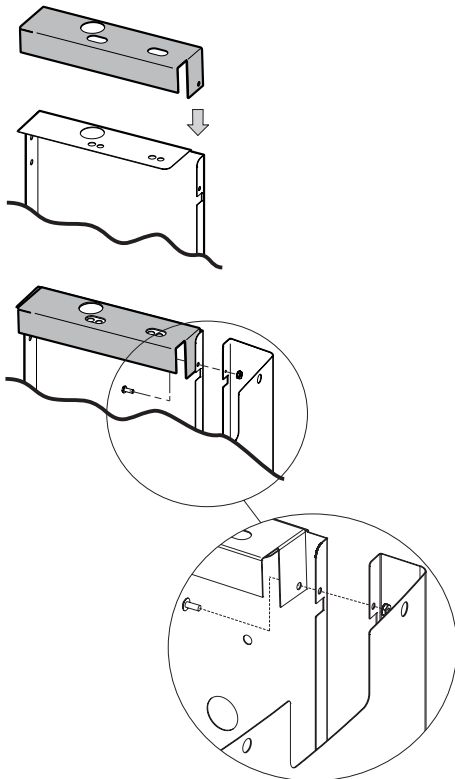

Figure 2
2. Place the base support brackets on the side panels. Slide the short flanges on the brackets between the top and side flanges of the side panels. See Figure 2.
3. Align the holes on the front and side panel assemblies and secure with six #10-24 x 1/2" Phillips screws and 10-24 Keps Nuts provided (3 on each side). Do not tighten these screws until all are installed. Use black screws for black carts and stainless steel screws for stainless steel carts. See Figures 2 and 3.